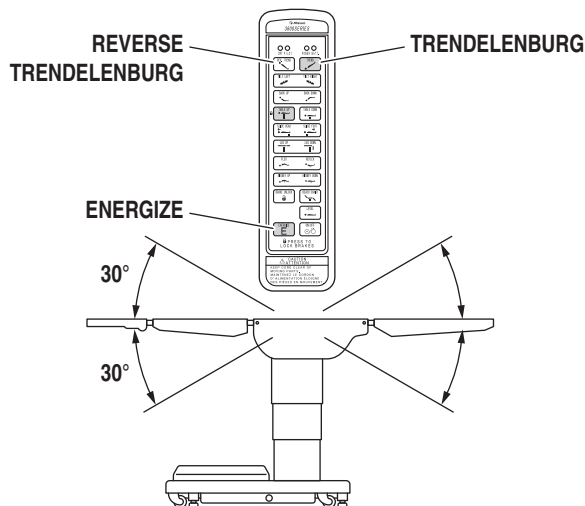

Figure 2-7. Trendelenburg Positioning
b. Trendelenburg To place the table in a Trendelenburg (head down) position, press the ENERGIZE button and then the TREND button (figure 2-7). To place the table in a reverse Trendelenburg (head up) position, press the ENERGIZE button and then the REV TREND button. Trendelenburg positioning of up to 30° may be obtained.